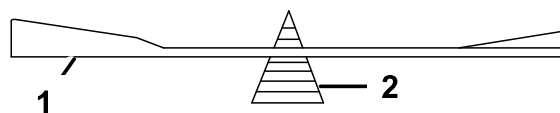

Figure 103
- Check the balance of the blade by putting it on a blade balancer (Figure 103).